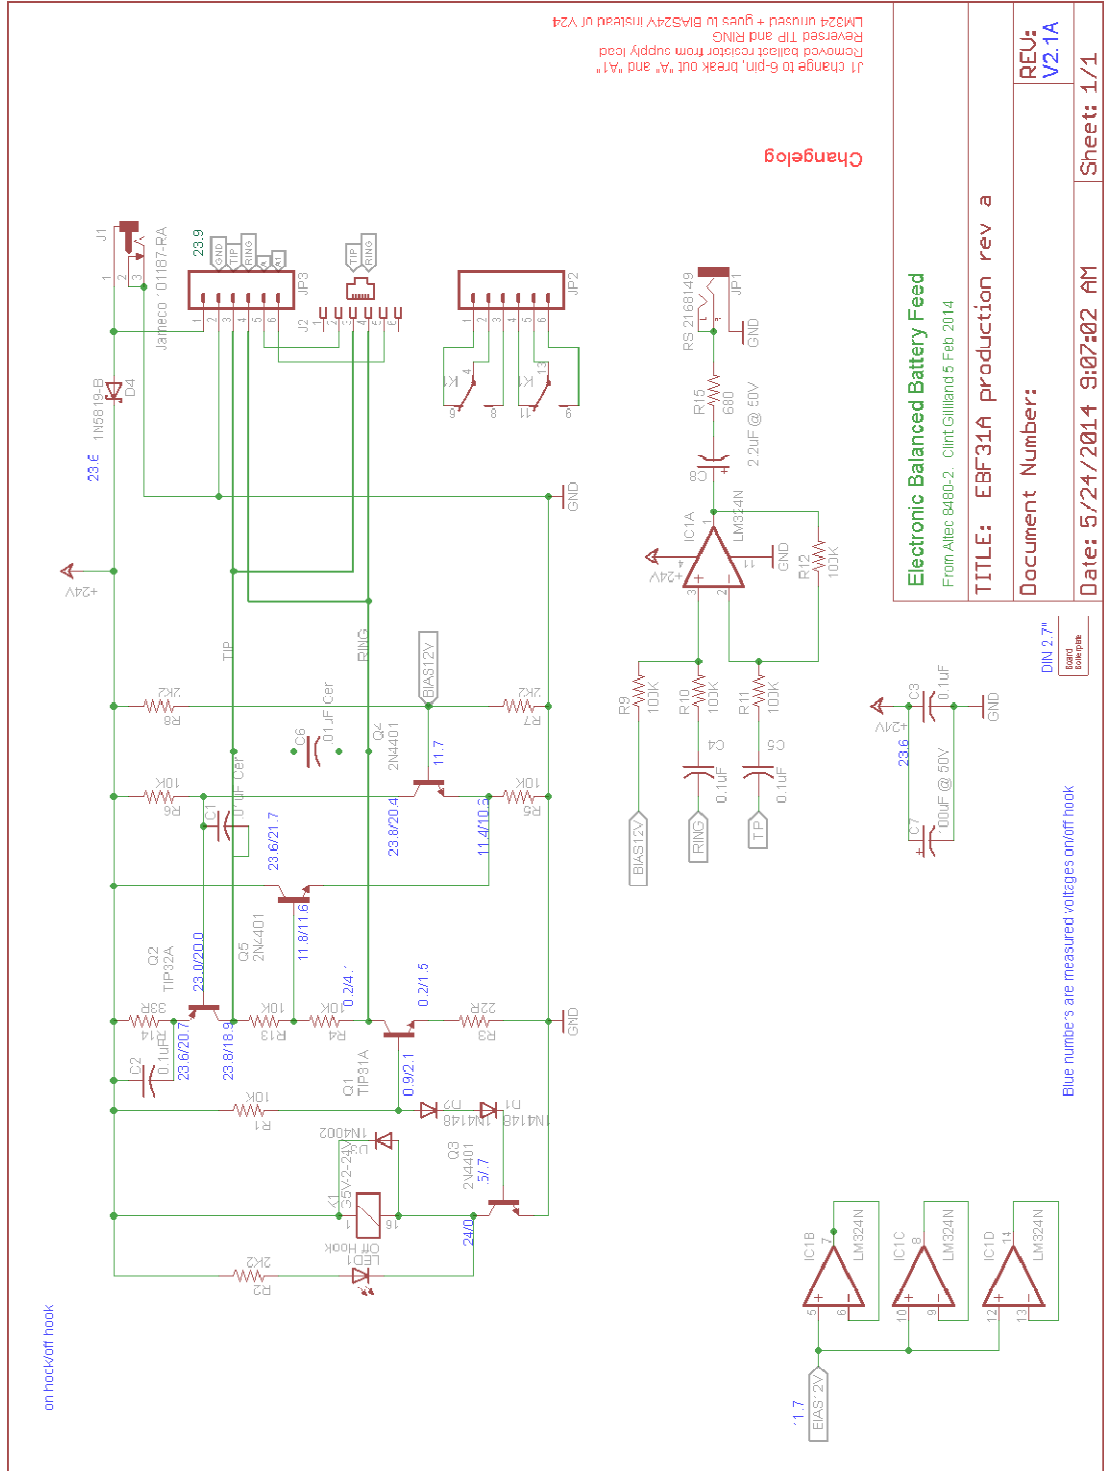

Figure 3 EBF31A Schematic with nominal voltages
5. If you assembled the EB31A yourself, refer to the schematic, (figure 3 above) and check the on and off hook voltages as shown on the schematic drawing